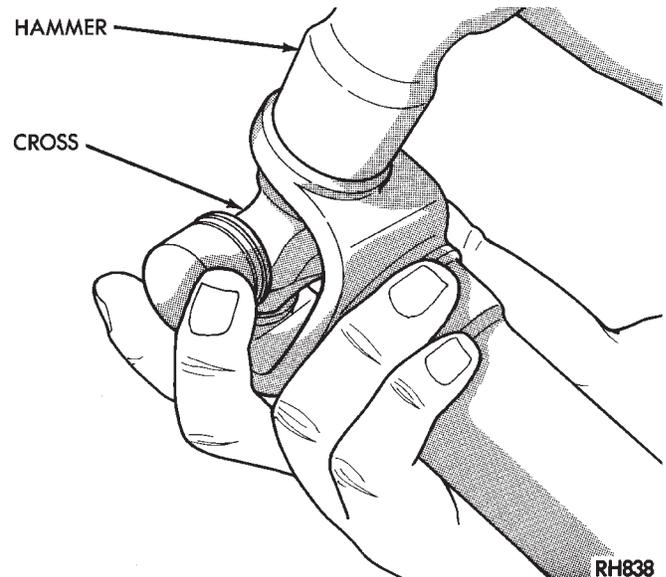

Fig. 5 Assemble Universal Joint
- (1) Hold cross in position between yoke ears with one hand and start one bushing assembly into yoke with other hand (Fig. 5).
- (2) Continue to hold cross in position, then hammer bushing assembly into yoke and install snap ring.
- (3) Install opposite bushing and snap ring in the same manner.
- (4) Repeat process for stub shaft yoke after aligning marks on yoke and shaft.